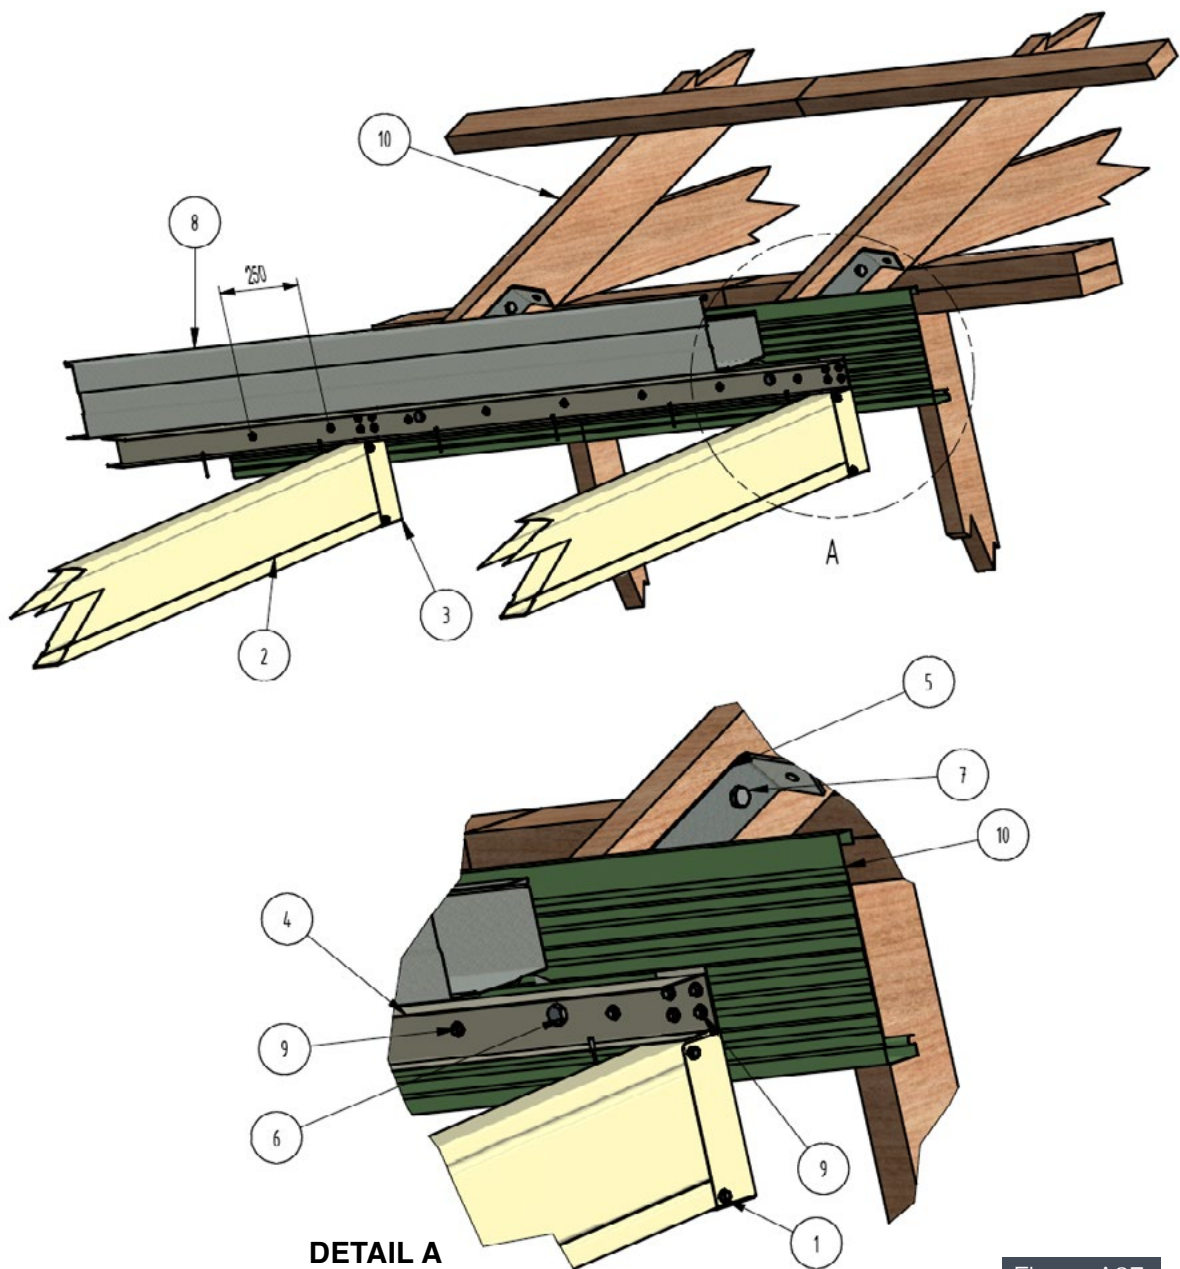

Figure A37
**Beam to Steel Fascia Connection (See Figure A37)**